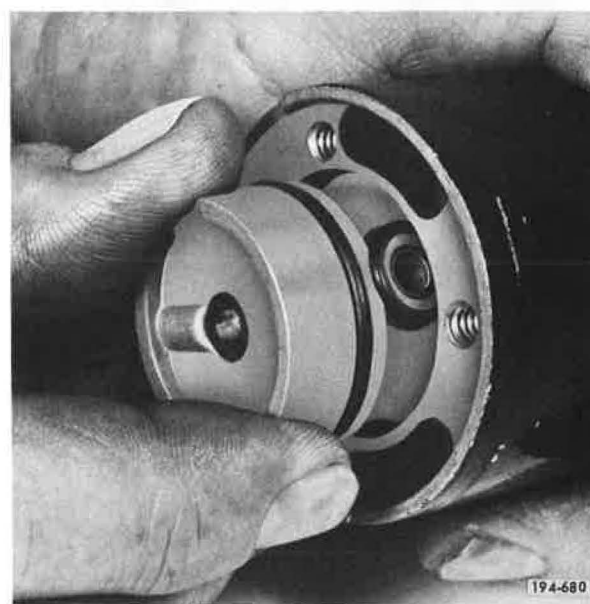

Figure 5-817. Removing Rotor
8. Remove rotor from valve body. See **Figure 5-817.**